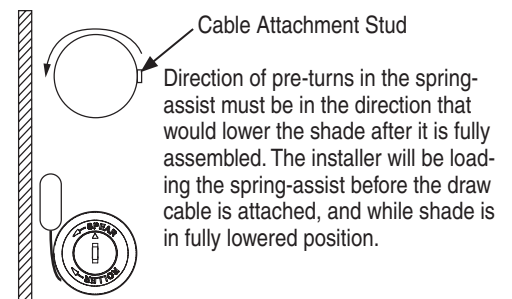

Figure 5
- ⑨ If Spring Assist is provided with this unit, pre-tension the Spring Assist by using the bead chain to add pre-rotations to the top roller (see Fig. 5).